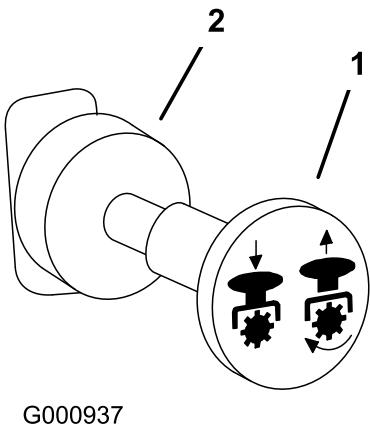

Figure 15
4. Pull out on the power take off (PTO) switch to engage it (Figure 15).
To disengage, push the PTO switch to the **off** position (Figure 15).